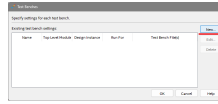

Figure 20: Click "New"
11. Click "New" in "Test Benches" window. (Figure 20)